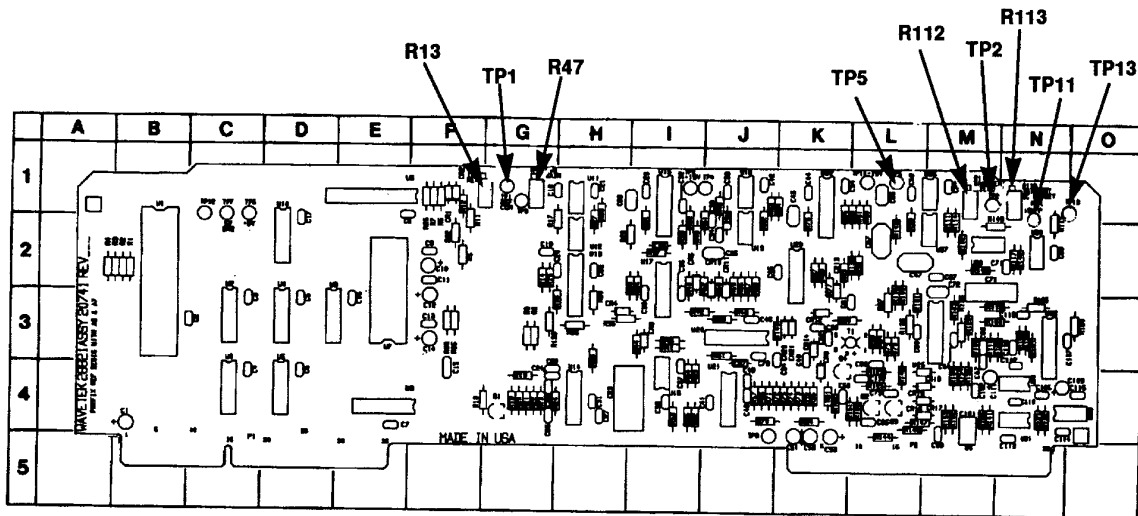

Figure 3. A6/A7 board - component locations.
- (1) Connect multimeter (dc mode) LO lead to A6TP1 (A7TP1) (fig. 3).
- (2) Connect multimeter (dc mode) HI lead to A6TP2 (A7TP2) (fig. 3).
- (3) Adjust A6R13 (A7R13) (fig. 3) for a multimeter indication between 9.997 and 10.003 V dc (R).
- (4) Repeat (1) through (3) above for A7 board.
- (5) Disconnect multimeter leads from TI.
- (6) Press TI keys as listed in (a) through (d) below:
- (7) Connect **SYNC OUTPUT** (rear panel) to oscilloscope channel 2 input and set this input as an external trigger on oscilloscope.
- (8) Connect oscilloscope channel 1 input LO (common) lead to A6TP11 (A7TP11) (fig. 3) and then connect oscilloscope channel 1 input HI lead to A6TP5 (A7TP5) (fig. 3).
- (9) Connect pulse generator output to **TRIG INPUT** on TI rear panel.
- (10) Set pulse generator controls for a pulse signal with 5 V amplitude (TTL), 10 μs pulse width, and a repetition rate of 1 kHz.
- (11) Press TI keys as listed in (a) through (c) below:
(12) Adjust A6R112 (A7R112) (fig. 3) for an oscilloscope display indication between -0.002 and +0.002 V dc offset at the end of sample time (R).
(13) Press TI keys as listed in (a) through (e) below:
(14) Connect multimeter (dc mode) LO lead to A6TP1 (A7TP1) (fig. 3).
(15) Connect multimeter (dc mode) HI lead to A6TP13 (A7TP13) (fig. 3).
(16) Adjust A6R113 (A7R113) (fig. 3) for a multimeter indication between -0.001 and +0.001 V dc offset (R).
(17) Disconnect TI from equipment setup.
(18) Repeat (6) through (17) above for A7 board.
(19) Press **RESET** pushbutton located on TI rear panel.
(20) Press TI keys as listed in (a) through (d) below:
(21) Connect multimeter (dc mode) to **ANALOG A** output on TI rear panel.
(22) Adjust A6R47 (fig. 3) for a multimeter indication between -0.01 and +0.01 V dc (R).
(23) Press **F3** key. Multimeter will indicate between 2.975 and 3.025 V dc.
(24) Press **F1** key. Multimeter will indicate between -4.965 and -5.035 V dc.
(25) Press **F2** key.
(26) Move multimeter (dc mode) connection from **ANALOG A** output on TI rear panel to **ANALOG B** output on TI rear panel.
(27) Adjust A7R47 (fig. 3) for a multimeter indication between -0.01 and +0.01 V dc (R).
- (28) Press **F3** key. Multimeter will indicate between 2.975 and 3.025 V dc.
- (29) Press **F1** key. Multimeter will indicate between -4.965 and -5.035 V dc.
- (30) Disconnect TI from equipment setup.